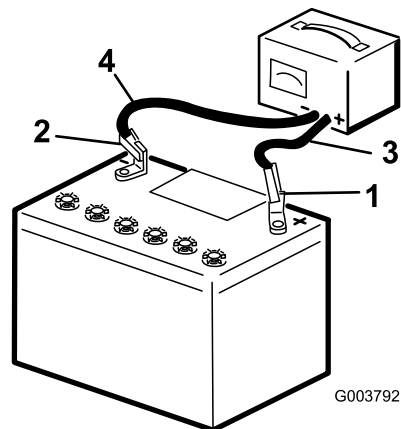

Figure 30
3. Charge the battery for 10 to 15 minutes at 25 to 30 amps or 30 minutes at 4 to 6 amps. Do not overcharge the battery (Figure 30).
4. When the battery is fully charged, unplug the charger from the electrical outlet, then disconnect the charger leads from the battery posts (Figure 30).